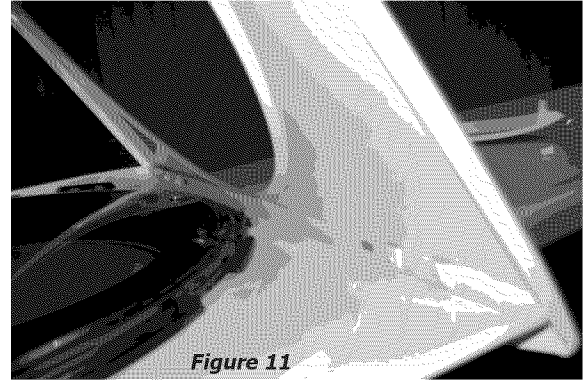

Figure 11
- 12 Reassemble outer door to inner door. (Figure 11)